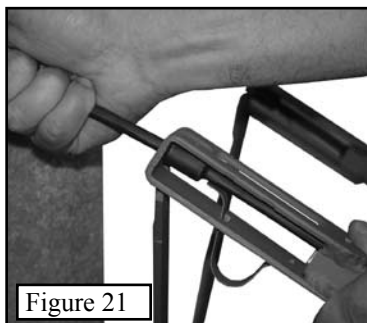

Figure 21
**Step 3.** Pull the cable towards the back of the tree and "seat" one of the cable stops against the back of the bracket, as shown in **Figure 21**. The QuickDraw cable spring will "lock" into place behind one of the cable stops.